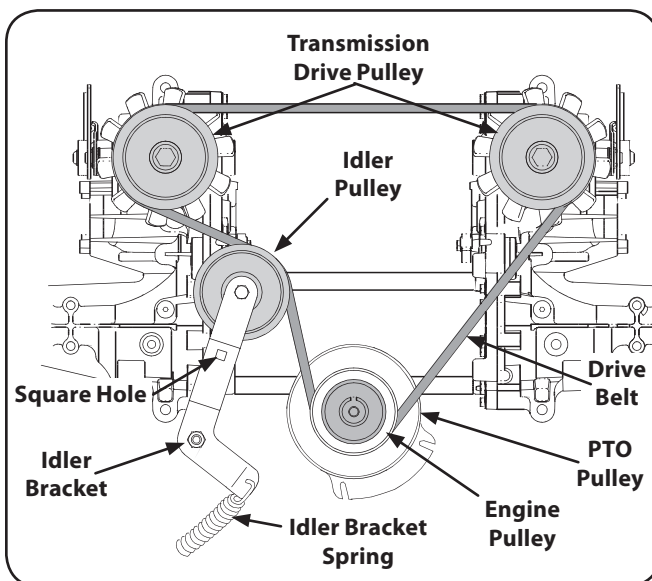

Figure 7-8
- From beneath the rear of the tractor, insert a  $\frac{3}{8}$ " drive ratchet into the square hole of the drive idler bracket. See Fig. 7-8.